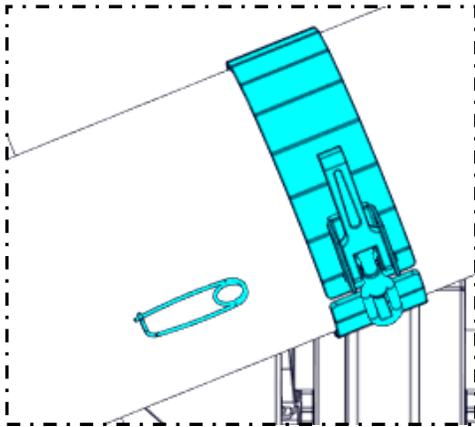

Figure 4.12
- A) Open the over-center latch on the transfer auger support holding the transfer auger to the mill trailer (Figure 4.12).